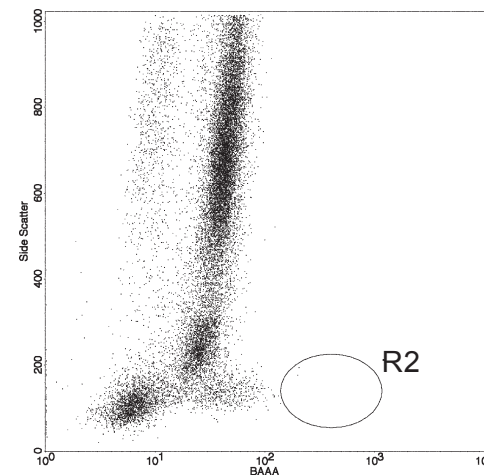

Figure 1c. DEAB Control. Dot plot is gated on R1. R2 should be adjusted so that few or no events appear in this region.
- On the FL1 vs. SSC plot, adjust the FL1 photo-multiplier tube (PMT) voltage so that the right edge of the stained population is placed at the 2nd log decade on the dot plot (see Figure 1c). Remove the tube. Note that all cells are fluorescent due to the intracellular substrate.